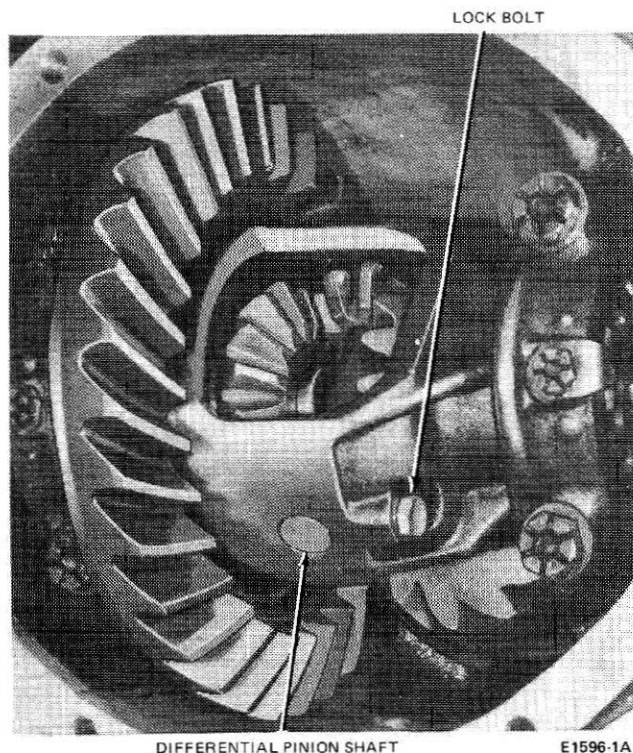

FIG. 2 Differential Pinion Shaft and Lock Bolt
7. Working through the differential case opening, loosen the pinion shaft lock bolt and remove the pinion shaft (Fig. 2).